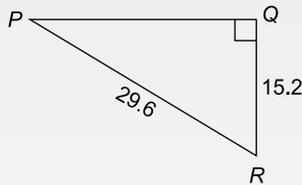

Figure RT1.2
- In triangle  $PQR$  in Figure RT1.2, find angle  $P$  in decimal form, correct to 2 decimal places